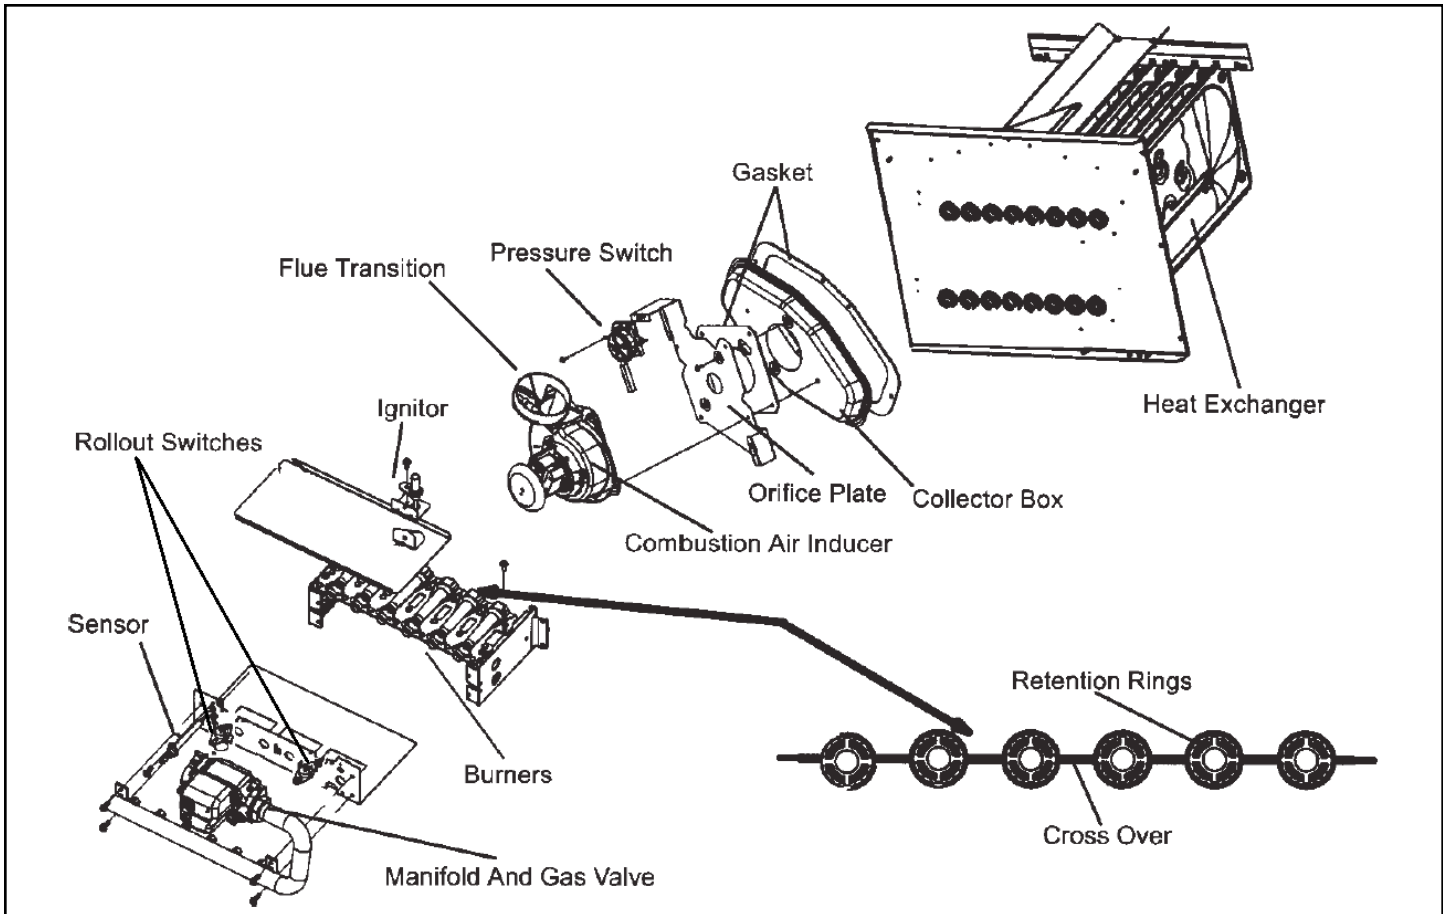

Figure 31. Burner, Combustion Air Inducer Assembly & Heat Exchanger Removal
12. To clean burners, run a vacuum cleaner with a soft brush attachment over the face of burners. Visually inspect inside the burners and crossovers for any blockage caused by foreign matter. Remove any blockage. Figure 31 shows burner detail.